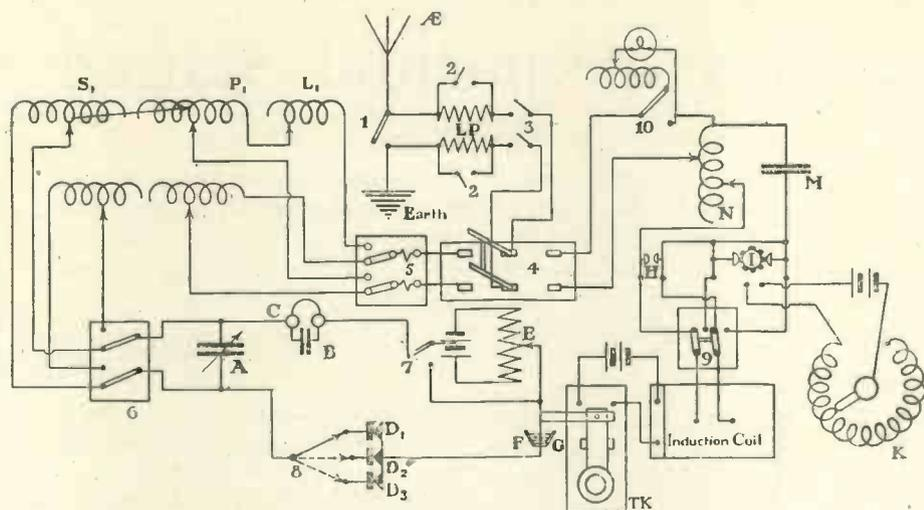

Fig. 2.
The telephones (c) have a resistance of 3,500 ohms. The blocking condenser B has 3 capacities: .001, .002, .003 microfarad. The switch (7) puts into circuit a potentiometer E for use with carborundum detector D_1 . A crystal cup holds a carefully-selected piece of the crystal by means of an alloy, the melting point of which (140°F.) does not affect the crystal. The alloy is made by fusing together 4 parts of Bismuth, 1 of Cadmium, 2 of Lead, 1 of Tin. The crystal presses against a steel surface. Switch (8) allows the use of one of the 3 detectors. D_2 is a zincite-tellurium type (no potentiometer); D_3 is Molybdenite, very robust and reliable, but only for short range work or strong signals. F is a mercury cup (Figs. 2 and 3) which opens the detector circuit every time the transmitting key is pressed down, regardless of the position of switch (4). It saves the detectors from fusing or burning out. A